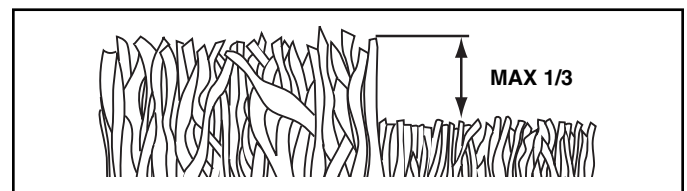

FIG. 9
- For best results, adjust the lawn mower cutting height so that the lawn mower cuts off only the top one-third of the grass blades (See Fig. 9). If the lawn is overgrown it will be necessary to raise the height of cut to reduce pushing effort and to keep from overloading the engine and leaving clumps of mulched grass. For extremely heavy mulching, reduce your width of cut by overlapping previously cut path and mow slowly.